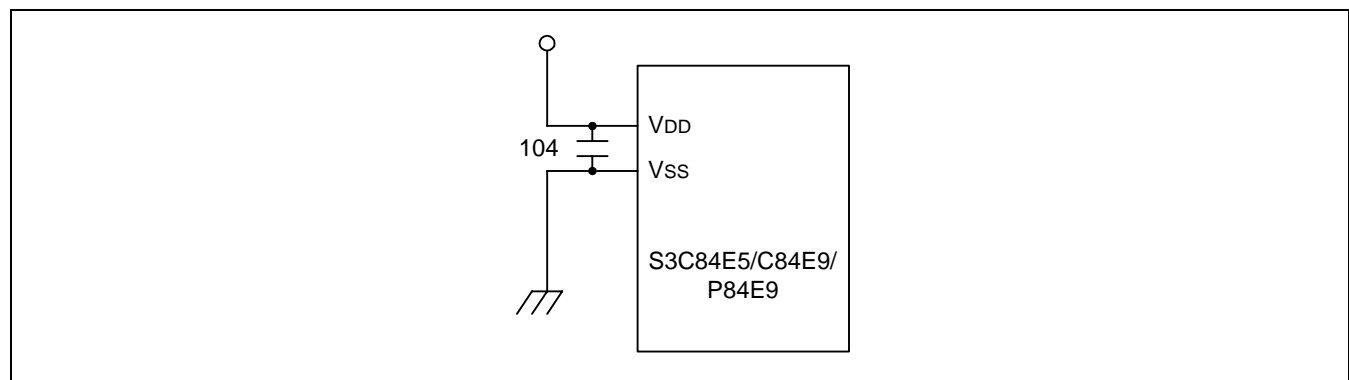

Figure 17-9. The Circuit Diagram to Improve EFT Characteristics
**NOTE:** To improve EFT characteristics, we recommend using power capacitor near S3C84E5/C84E9/P84E9 like Figure 17-9.